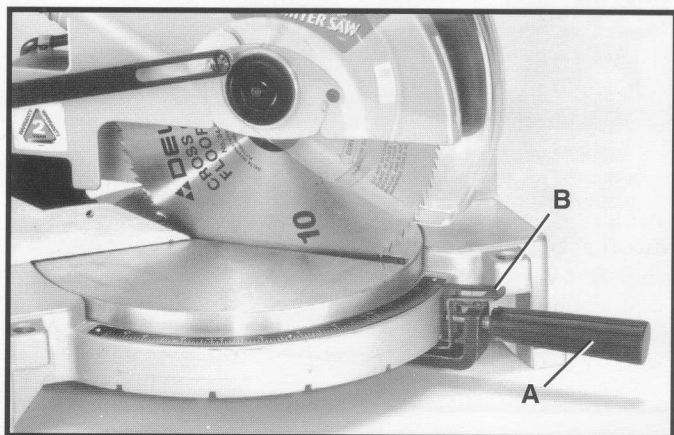

Fig. 4
2. Figure 4, illustrates the table lock handle (A) assembled to the saw.
1. Loosen table lock handle (A) Fig. 4, one or two turns and depress index lever (B) to release 45 degree positive stop.